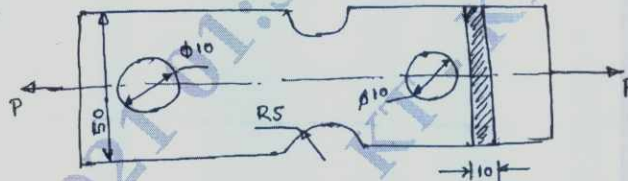

Fig. Q2 (b)
b. Determine the safe load that can be carried by a bar of rectangular cross section as shown in Fig. Q2 (b) limiting the maximum stress to 130 MPa taking stress concentration into account. (16 Marks)